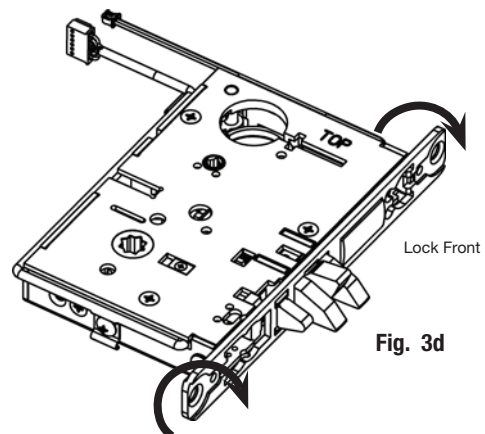

Fig. 3d
- Rotate lock front to match bevel of door by inserting screwdriver into lock mounting holes and twisting (Fig. 3d).